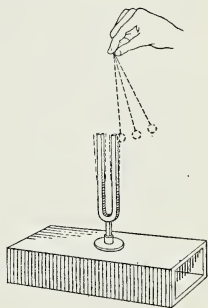

Fig. 207. Showing that a sounding tuning fork vibrates.
**What starts sound?** Perhaps you have seen a toy consisting of a big cardboard bumblebee fitted with a rubber band that hums as one swings it around on the end of a string. Let us see why the bee hums. Stretch a rubber band and pluck it to make it vibrate. You hear it hum. The vibration starts the sound. Touch the middle of a vibrating rubber band to a light suspended body, as a ping-pong ball, or a pith ball. The ball is thrown to one side, showing that the band strikes it with considerable force. The vibrating rubber band makes the cardboard bumblebee's hum. Strike a tuning fork and touch it to the pith ball or touch it very lightly to the surface of water in a glass (Fig. 207). Do the same with a sounding bell. These sounds are evidently started by vibration.